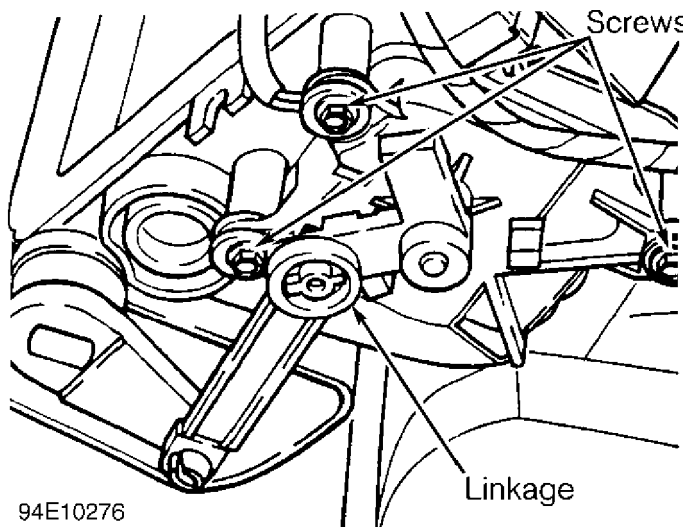

Fig. 6: Removing Central Air Distribution Flap Motor (90 CS)
2) To remove central air distribution flap motor, disconnect wiring harness Black connector and linkage at motor. See Fig. 6. Remove screws and flap motor.